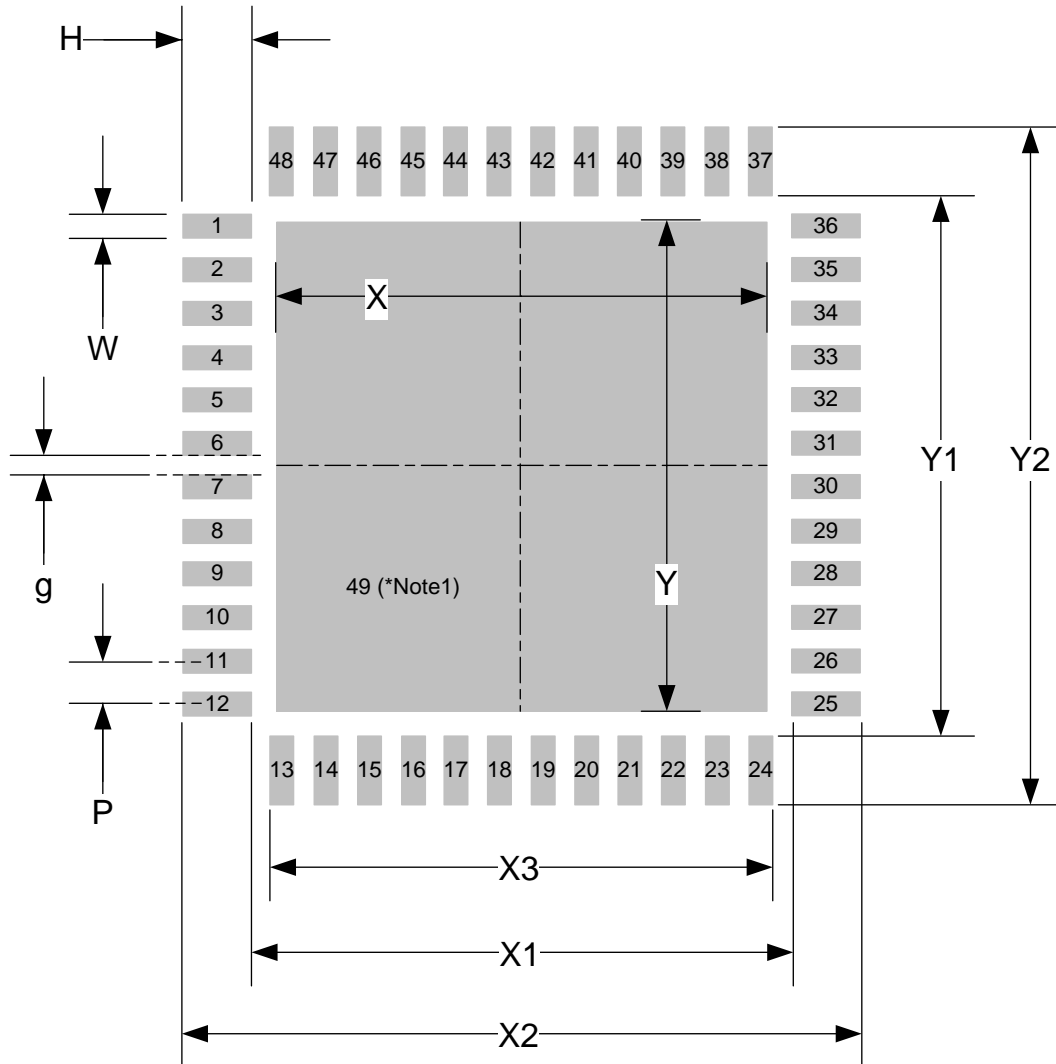

**Figure 8.1** QFN(7x7)-48 Package
**Table 8.1** Dimensions from Figure 8.1